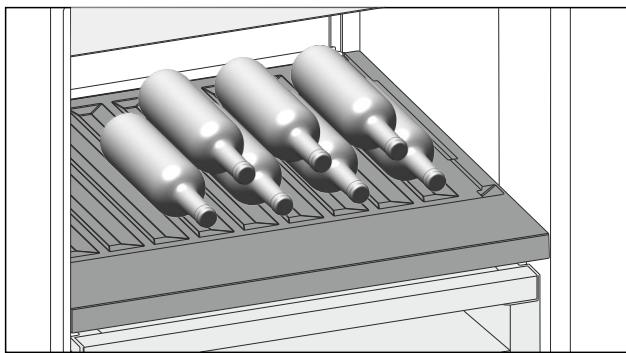

Fig. 104
- ▶ Place bottles in the back row with their bases against the back wall. (see Fig. 104)